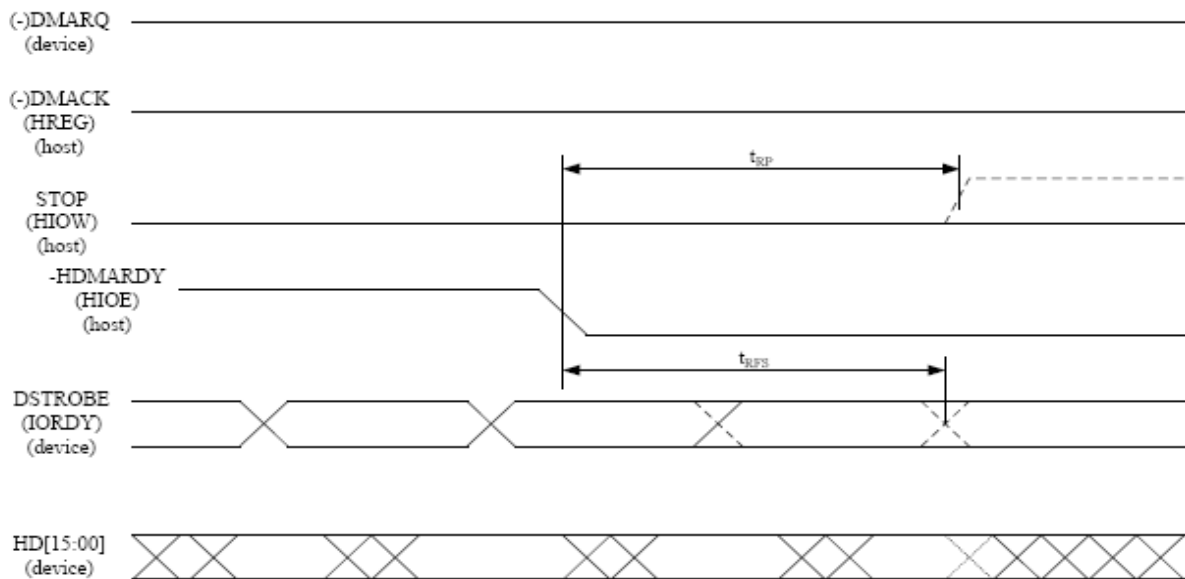
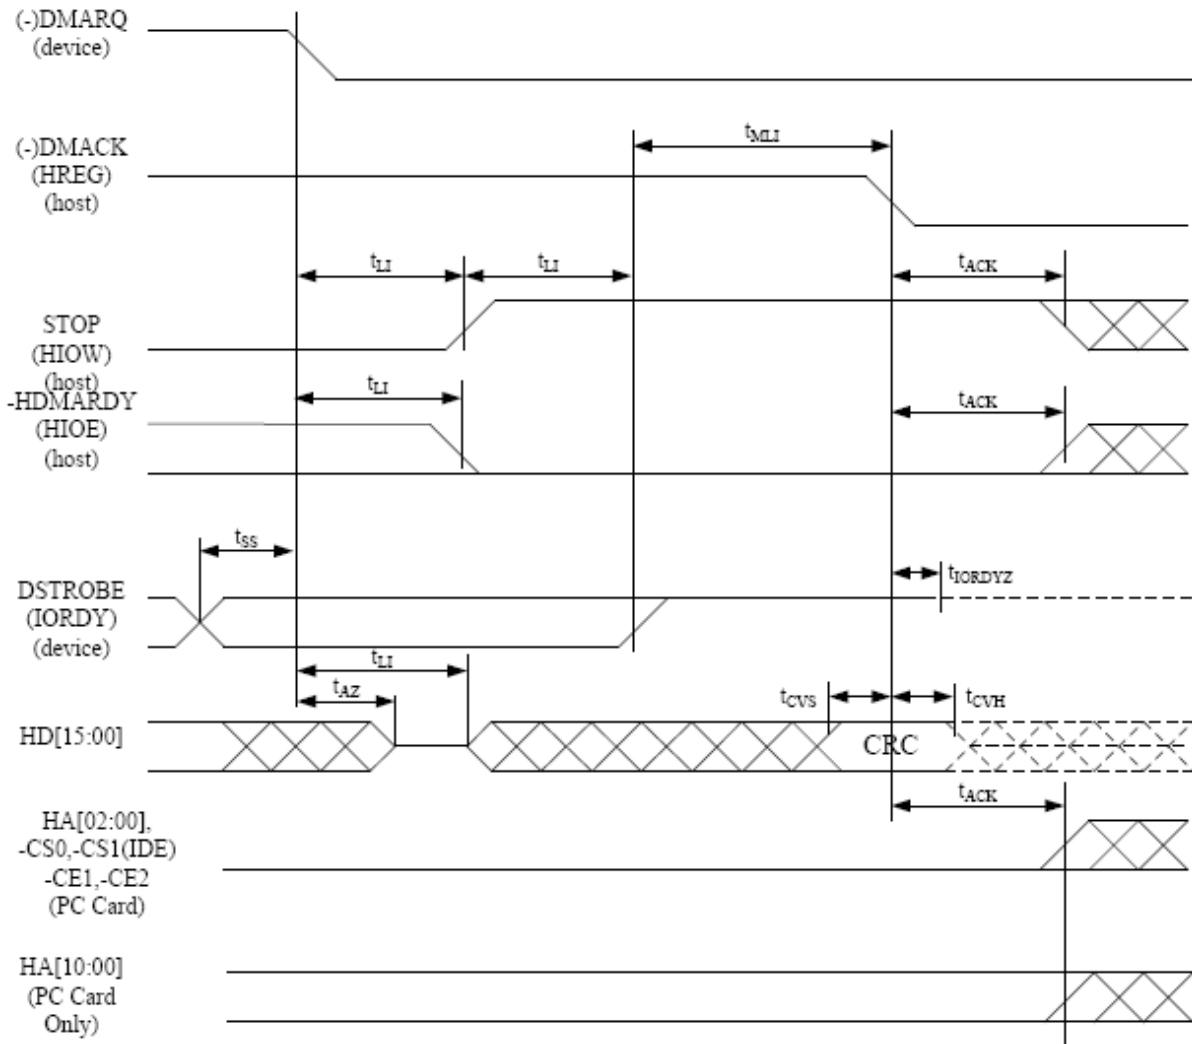

Figure 16: Ultra DMA Data-In Burst Host Pause Timing Diagram
Figure 17: Ultra DMA Data-In Burst Device Termination Timing Diagram
- (1) The parameters tUI, tMLI (in Figure 16: Ultra DMA Data-In Burst Device Termination Timing and Figure 17: Ultra DMA Data-In Burst Host Termination Timing), and tLI indicate sender-to-recipient or recipient-to-sender interlocks, i.e., one agent (either sender or recipient) is waiting for the other agent to respond with a signal before proceeding. tUI is an unlimited interlock that has no maximum time value. tMLI is a limited time-out that has a defined minimum. tLI is a limited time-out that has a defined maximum.
- (2) 80-conductor cabling shall be required in order to meet setup (tDS, tCS) and hold (tDH, tCH) times in modes greater than 2.
- (3) Timing for tDVS, tDVH, tCVS and tCVH shall be met for lumped capacitive loads of 15 and 40 pF at the connector where the Data and STROBE signals have the same capacitive load value. Due to reflections on the cable, these timing measurements are not valid in a normally functioning system.
- (4) For all timing modes the parameter tZIORDY may be greater than tENV due to the fact that the host has a pull-up on IORDY- giving it a known state when released.
- (5) The parameters tDS, and tDH for mode 5 are defined for a recipient at the end of the cable only in a configuration with a single device located at the end of the cable. This could result in the minimum values for tDS and tDH for mode 5 at the middle connector being 3.0 and 3.9 ns respectively.